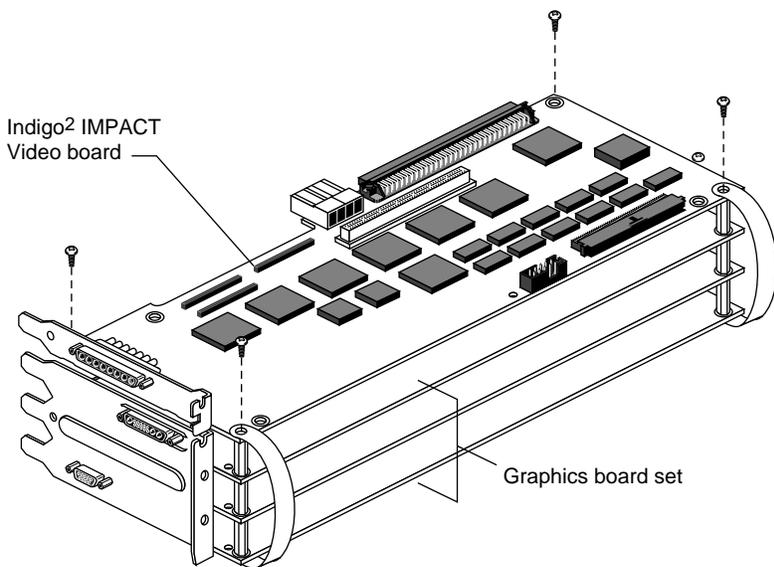

Figure 2-24 Aligning and Attaching the Video Board to the Graphics Board Set
3. Align the Indigo² IMPACT Video board with the graphics board set and place it on the standoffs (Figure 2-24).
6. Insert the remaining two screws through the pull straps and into the standoffs (Figure 2-24).